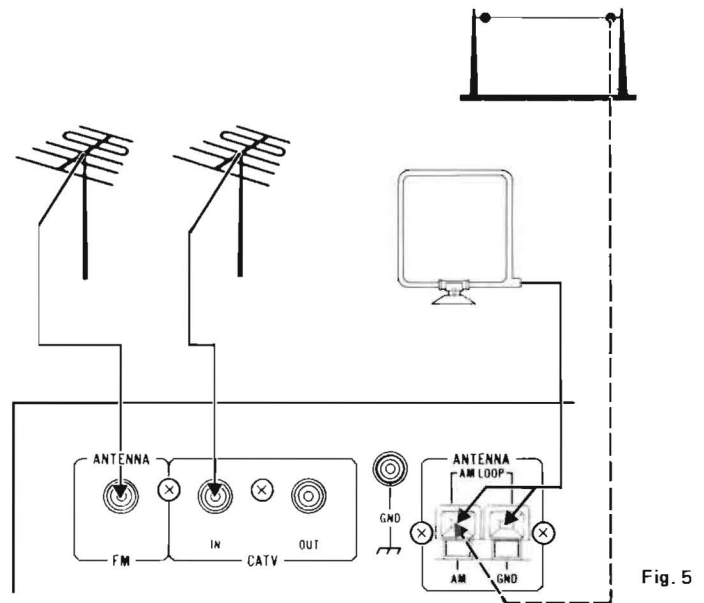

Fig. 5
- The CATV IN terminal can also be used for an extra FM antenna. With this arrangement, you can switch between 2 FM antennas for the best reception. (Fig. 5)